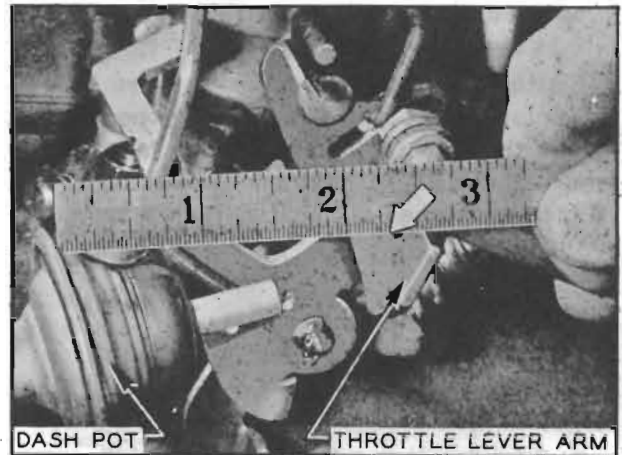

Figure 10-28—Checking Switch Timing on Car—Step Two
4. With ignition turned on, slowly open throttle while holding scale in position against flange of dash pot. When cranking motor is energized, note distance from flange of dash pot to near edge of dash pot arm. See figure 10-28.